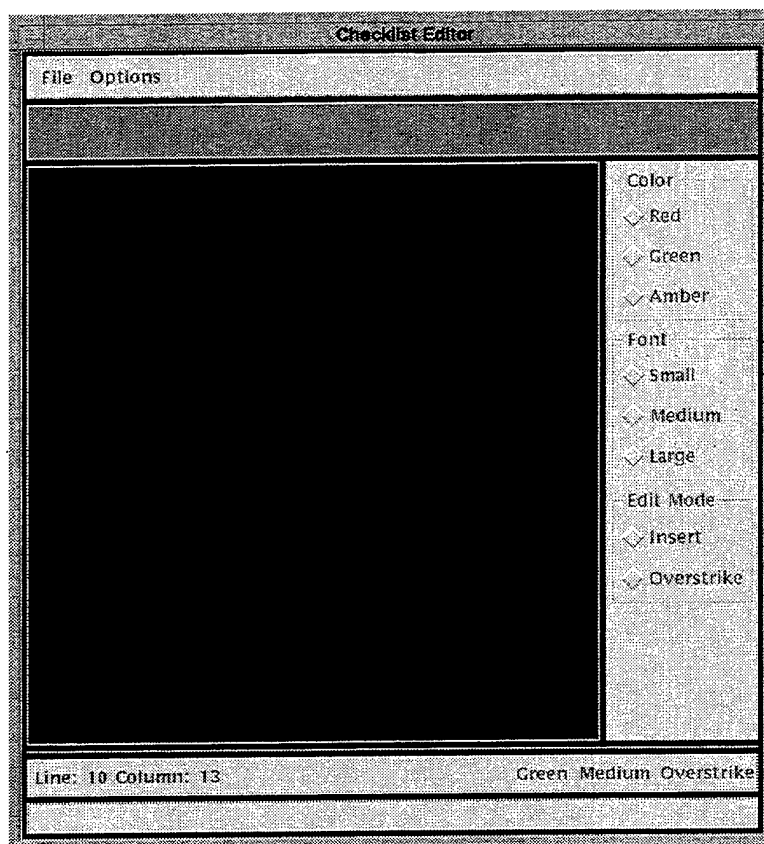

Fig. 37 — Checklist editor window
3.3.6.3.1 *Checklist Editor*—After selecting this option, MMC will display the **Checklist Editor Window** (Fig. 37) to help the user build and modify AV-8B checklists that can be displayed in the